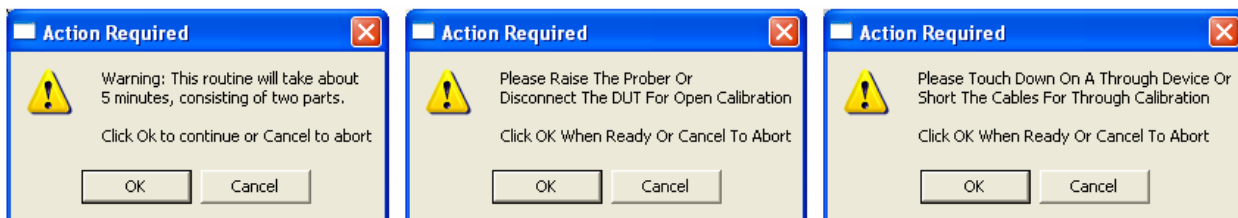

Figure 17. Three separate PulseIVCal dialog boxes: Initial, Open Cal, Through Cal.
4. Click OK on the first dialog box to continue the PulseIVCal (Figure 17, left dialog box).
6. Click OK on the Open dialog box (Figure 17, middle dialog box). The Open portion should take about 1 minute.
8. Click OK on the Through dialog box (Figure 17, right dialog box). The Through portion should take about 1 minute.